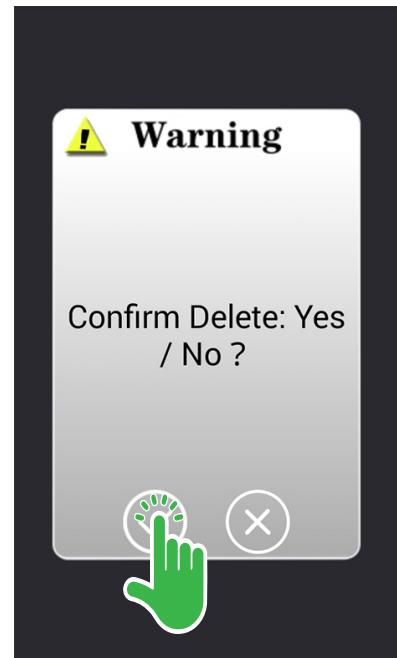

Fig. 41
5. Touch the OK button. The **Confirm Delete Screen** (Fig. 41) will display. Touch the OK button. The recipe will be deleted.